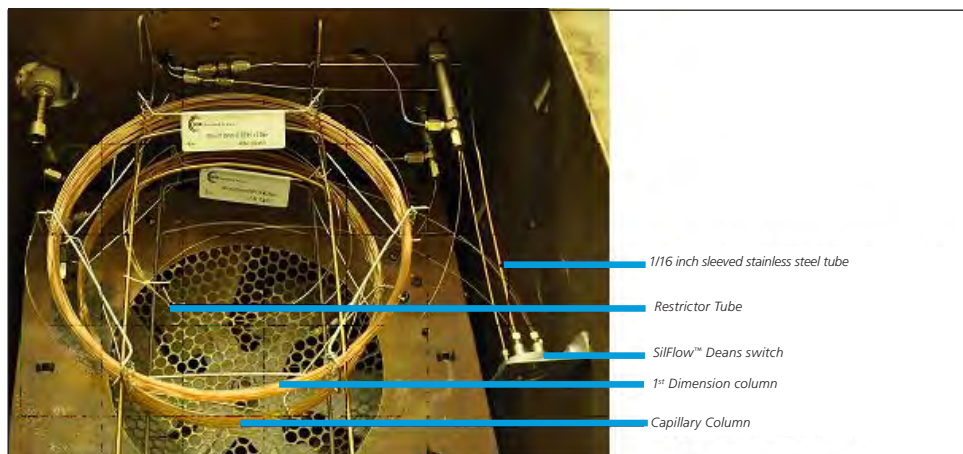

Figure 8. Hardware set-up for heart cutting two dimensional gas chromatography.
- iii. Run the stainless steel tubes through the oven ceiling and exit to the location where the solenoid valve is installed. If your GC is not equipped with EPC, SGE recommends VSO-EP™ Electronic Pressure Control Unit. See www.parker.com/precisionfluidics. Bend the tubes and align in such a way that they run closely against the oven walls. This provides easy access to the oven (Figure 8).